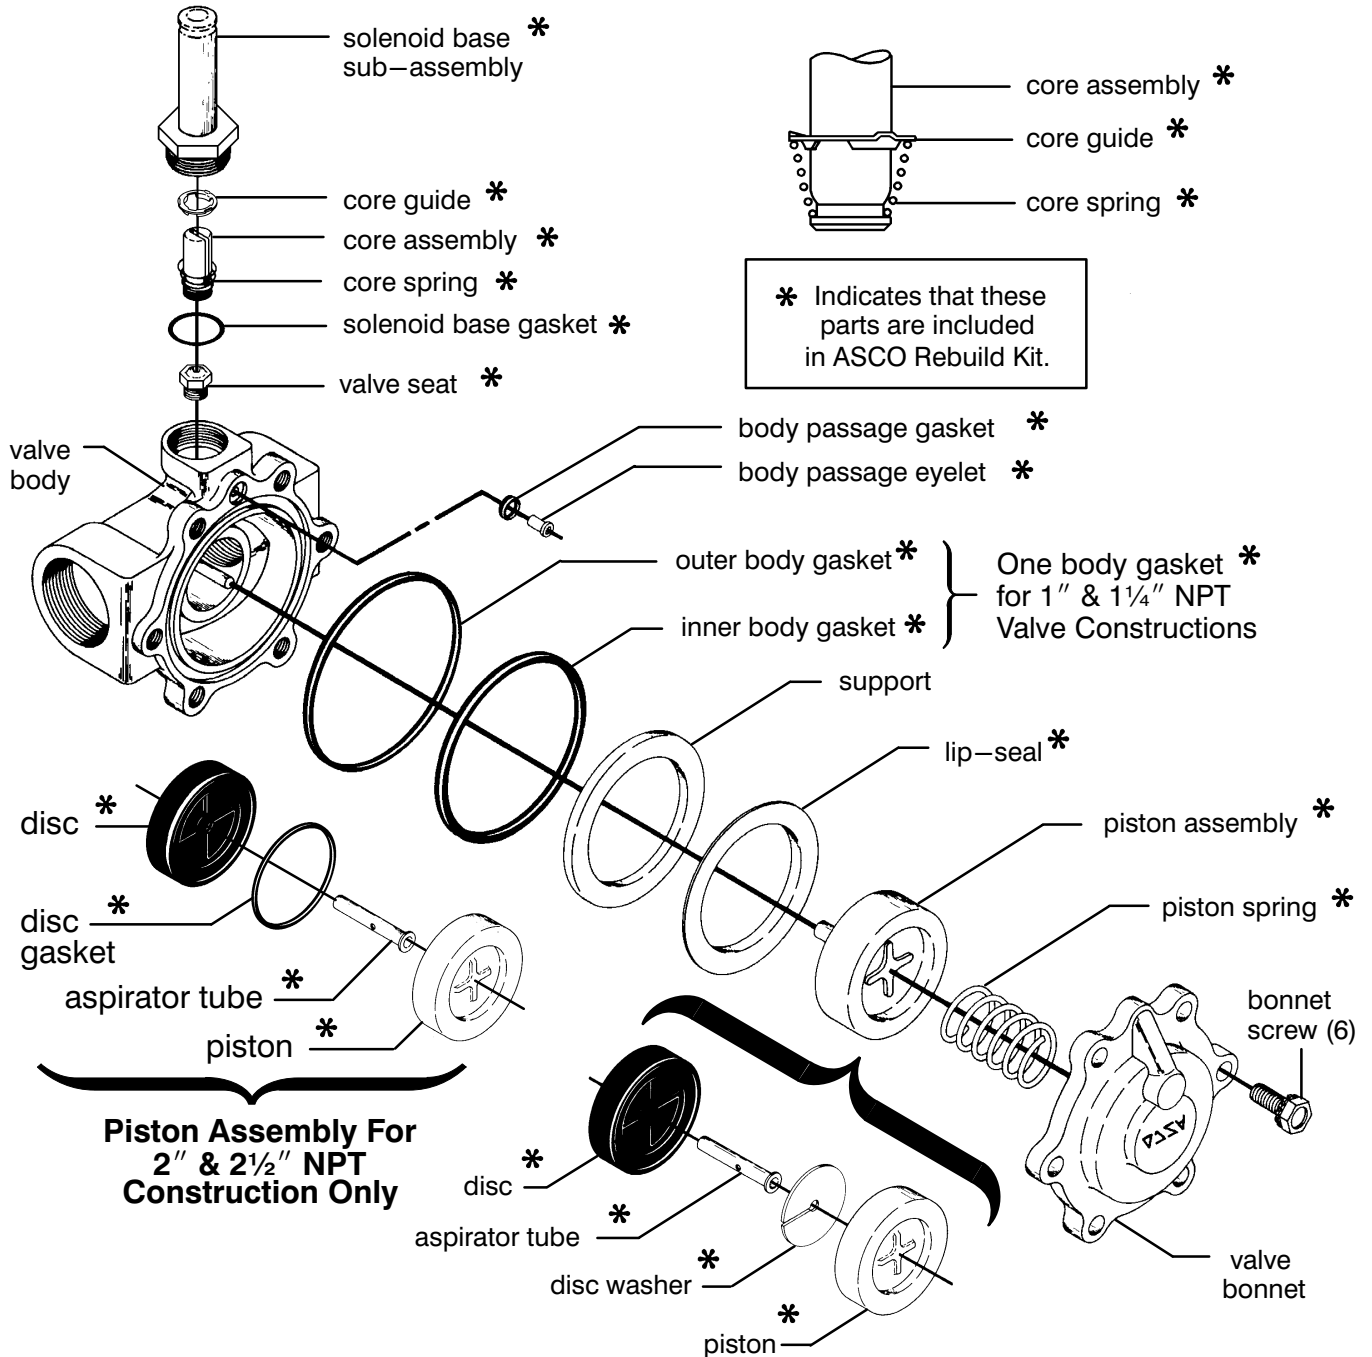

Figure 1. Series 8220 valve without solenoid.
Note: Check pressure rating on nameplate to determine valve construction. Refer to Figure 1 on page 3 for valves with a pressure rating of 50 psi steam or 150 psi hot water. Refer to Figure 2 on page 4 for valves with a pressure rating of 125 psi steam or 150 psi hot water.
5. On valves rated for 50 psi steam or 150 hot water reassemble piston assembly following views provided in Figure 1 on page 3.